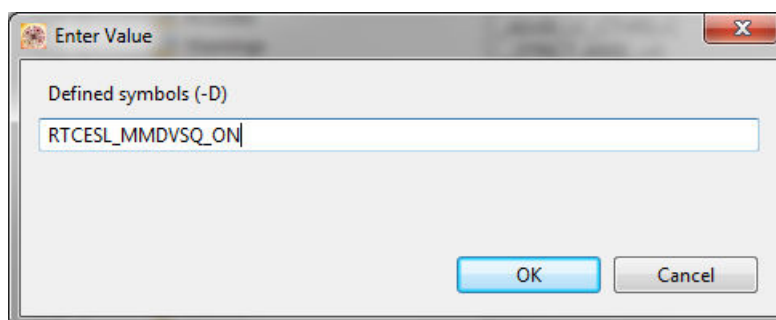

**Figure 1-12. Defined symbols**
2. Expand the C/C++ Build node and select Settings. See Figure 1-12.
3. In the right-hand part, under the Cross ARM C compiler node, click the Preprocessor node. See Figure 1-12.